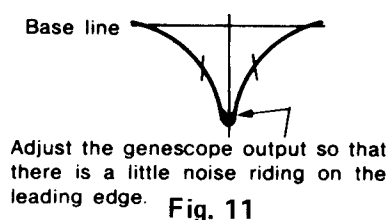

Fig. 11
4. Connect the frequency counter to IC301 ⑥ pin and connect a 220 kΩ resistor series with the frequency counter.
6. Feed in a weak signal from the genescope. Adjust T201, T203 for maximum gain and the waveform of Fig. 11.